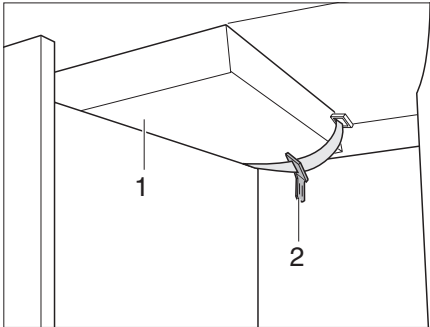

Fig. 123 Position of the seatbelt buckle – view from below
- Slide the seatbelt buckle (Fig. 123,2) forward so that the seatback (Fig. 123,1) can be folded down completely.